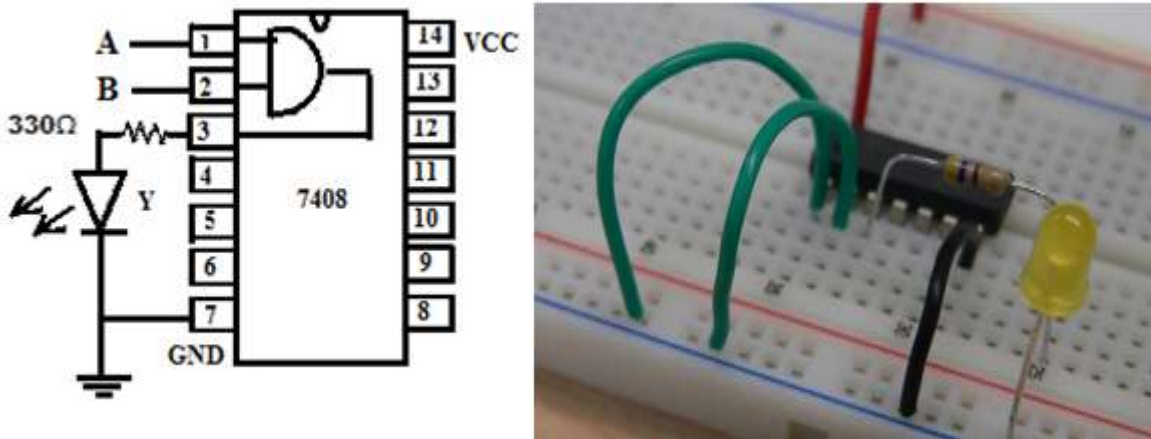

Fig 1.3: Circuit Diagram
3. Make the connection as per fig 1.3.